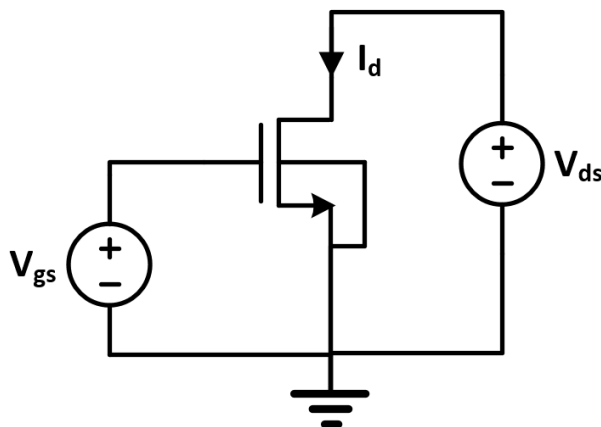

Figure 1: NMOS Circuit for DC Simulation
1. In Cadence, create a schematic and draw the circuit shown in Fig. 1.
Using the circuit in Fig. 1, Plot  $I_d$  vs.  $V_{gs}$  (sweep  $V_{gs}$  from 0V to 2V) for  $V_{ds} = 0.5V, 1V, 1.5V$ , and 2V. Explain your findings. (Note: please include the plots for the different  $V_{ds}$  values in one graph by using parametric analysis as described below)